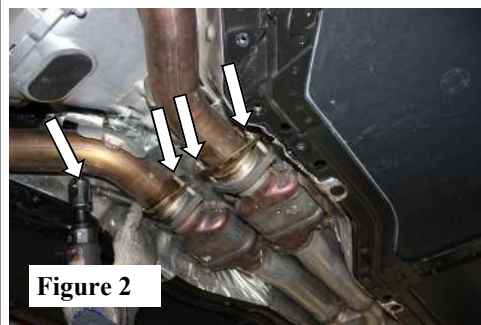

Figure 2
2. Loosen and remove the flange bolts at front of the mid-pipe. Keep hardware for reinstallation later. (See Fig. 2)